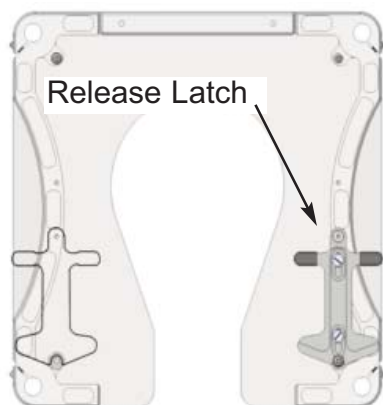

Figure 25
**D Release Latch:** Verify that the release latch is fully engaged on the slider seat before removing the connector bridge (Refer to Figure 25).